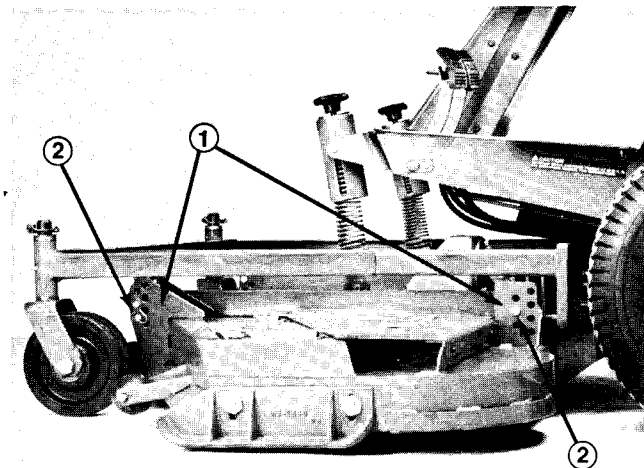

Figure 23
3. Lower the cutting unit to the floor. Remove the pins from the (4) height of cut brackets (Fig 23).